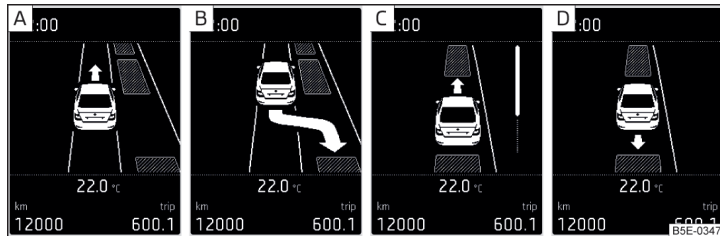

Fig. 145 Display
Display » Fig. 145
If the system has recognised a suitable parking space, this parking space is shown in the display » Fig. 145 - **A**.
- › Continue driving forwards until the display appears » Fig. 145 - **B**.
- › If the forward arrow flashes in the display » Fig. 145 - **C**, engage 1st gear or move the selector lever to position **D/S**.
- › If the backwards arrow is flashing in the display » Fig. 145 - **D**, select reverse gear again or move the selector lever into position **R** .